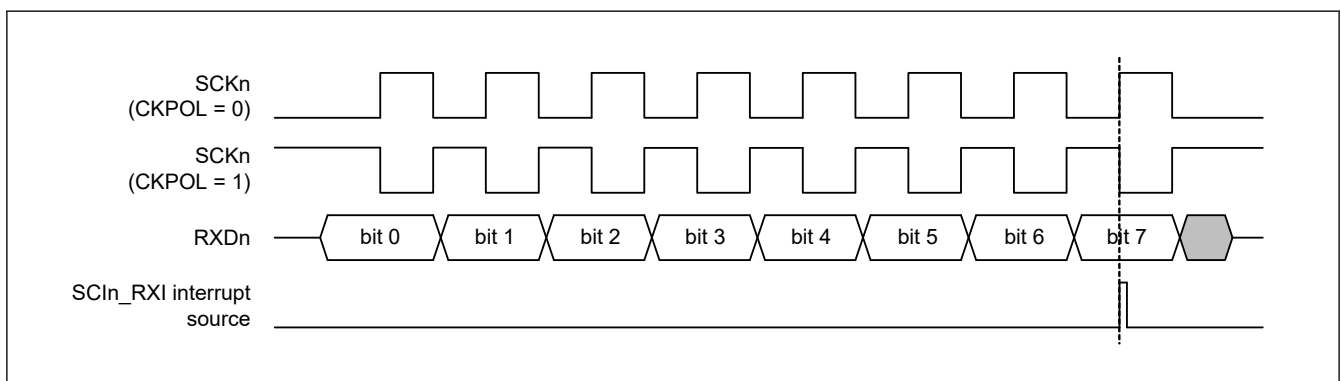

Figure 25.78 Timing of SCIn\_RXI interrupt in simple SPI mode with clock delay
- For the clock delay setting (SPMR.CKPH bit is 1), the receive data full interrupt (SCIn\_RXI) is generated before the final clock edge on the SCKn pin as indicated in Figure 25.78. If the TE and RE bits in the SCR register become 0 before the final edge of the clock signal on the SCKn pin, the SCKn pin is placed in the high-impedance state, so the width of the last clock pulse of the transfer clock is shortened. Additionally, an SCIn\_RXI interrupt might lead to the input signal on the SSn pin of a connected slave going to the high level before the final edge of the clock signal on the SCKn pin, leading to incorrect operation of the slave.